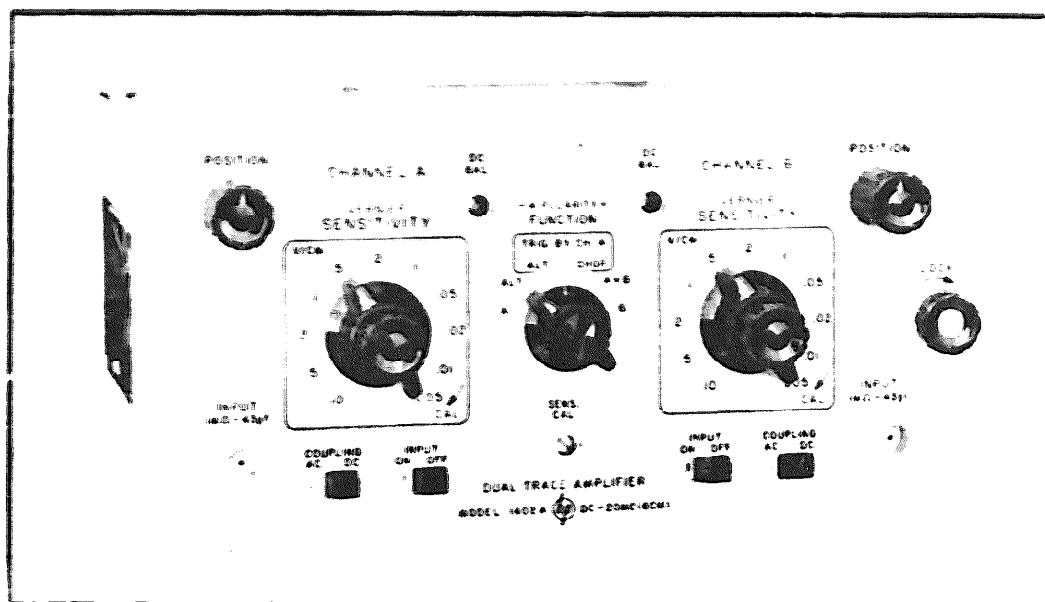

Figure 2-1. Model 1402A Dual Trace Amplifier
a. The hp Model 1402A Dual Trace Amplifier, Fig. 2-1, is a 20-Mc DC-coupled amplifier plug-in unit which has been designed for use with hp Model 140-series oscilloscopes. It contains dual amplifying channels for amplification of two separate input signals, for a function control which determines the presentation of the signal on the screen of the oscilloscope cathode-ray tube. The amplified signals from the Model 1402A are applied directly to the deflection plates of the CRT. Power is supplied to the plug-in unit by the oscilloscope.